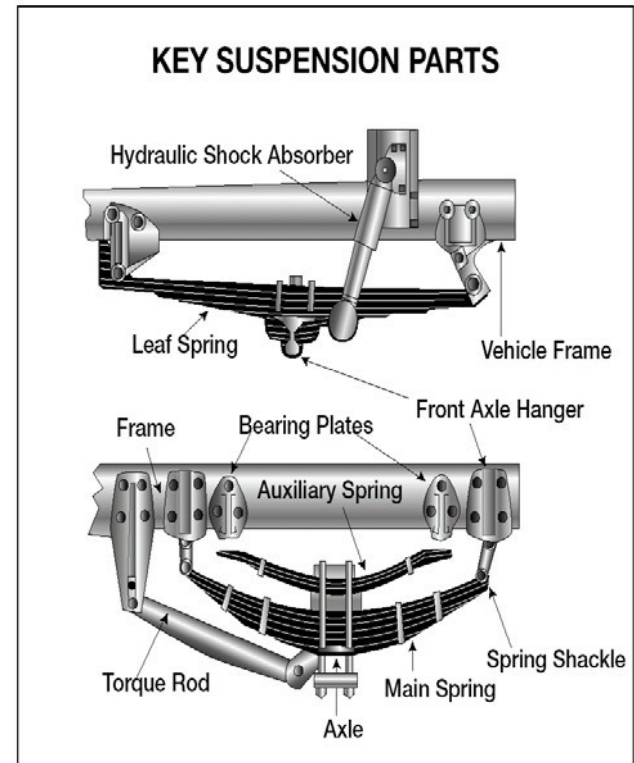

Figure 2.2
- ☐ Spring hangers that allow movement of axle from proper position. **See Figure 2.2.**